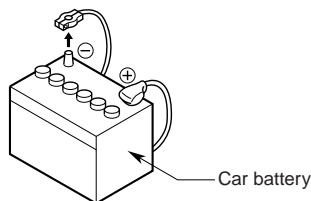

Figure 1
3. Be sure to disconnect the battery “⊖” terminal before starting. This is to prevent short circuits during installation. (Figure 1)